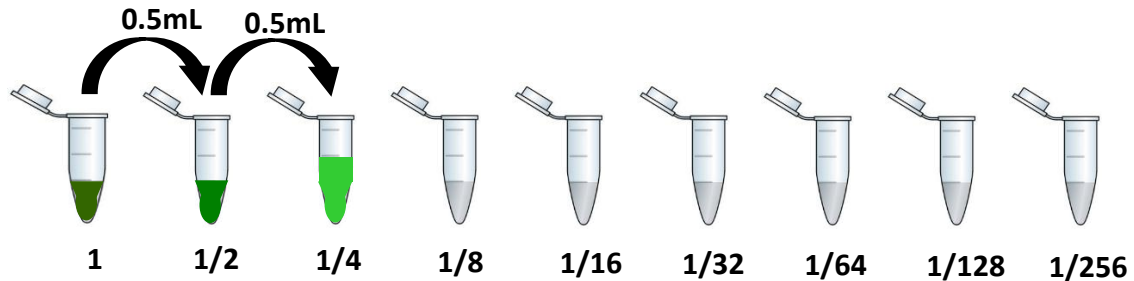

Fig. 3
6. To make your second serial dilution, use a p1000 micropipette to remove 0.5mL of the green solution in tube #1/2. Add the 0.5mL you have removed from tube #1/2 and mix it with the 0.5mL of water in the tube marked 1/4 . You now have 1mL in tube #1/4 and this solution is a slightly lighter green than the solution in tube #1/2 (See Fig. 3).